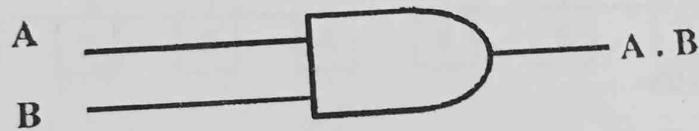

Figure 2.1
4. Wire the circuit according to the diagram in figure 2.1 by consulting AND gate IC's data sheet in fig.2.2